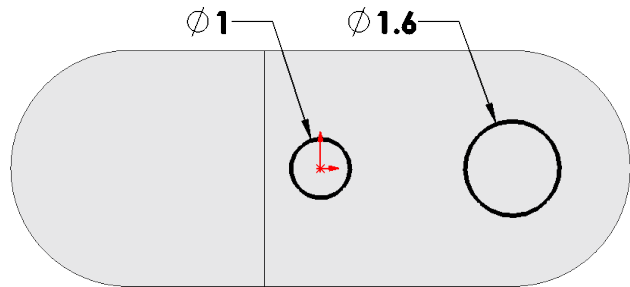

Fig. 18
Step 5. Click **Smart Dimension**  (S) on the Sketch toolbar.
Step 6. Dimension diameters, **Fig. 18**.